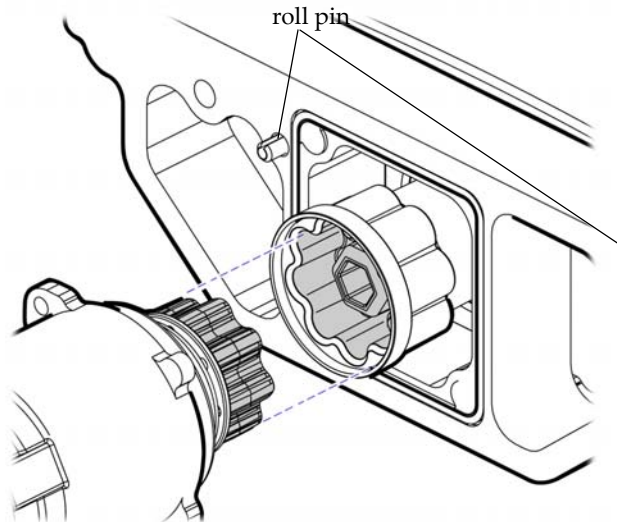

Figure 8-6: Align Couplings and Gearbox Housing Roll Pins with Chassis
6. Align couplings and gearbox housing roll pins with chassis. (Roll pin on right not pictured.) See Figure 8-6.
Although motor is shown out of position in Figure 8-6 (to make couplings and roll pins visible), motor is still in place during this procedure.